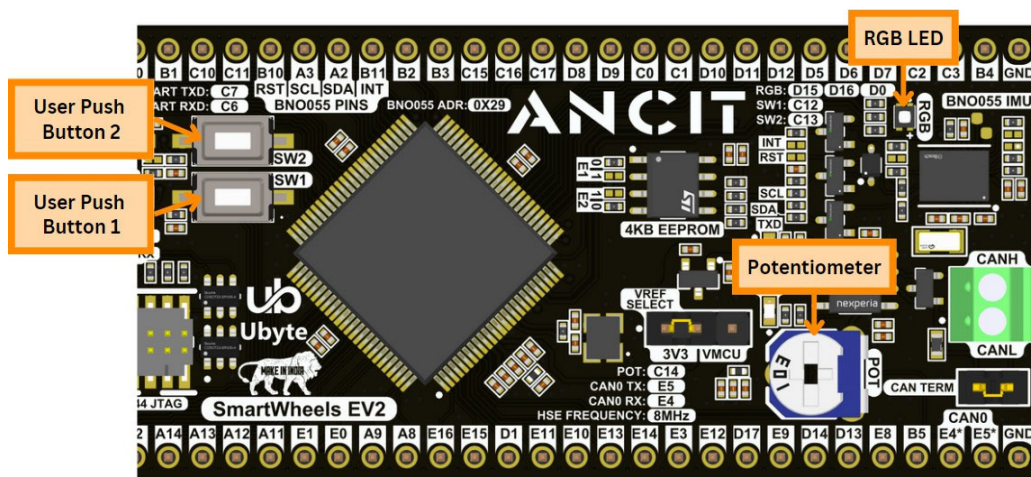

Fig 15 : Bosch BNO055 IMU location and Orientation
- The BNO055 is located towards the right side of the SmartWheels EV2. The user can take reference of pin number 1 for determining the orientation of the BNO055 on the SmartWheels EV2 as shown in Fig 15.